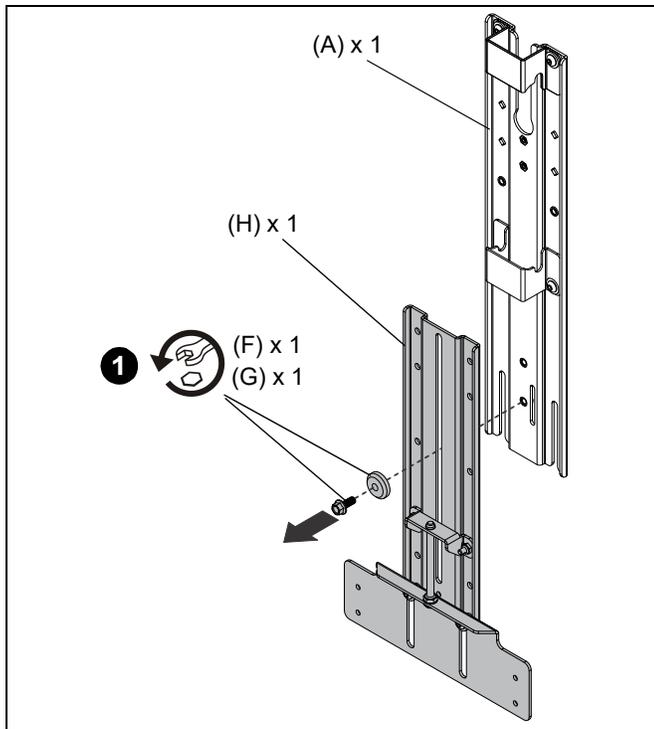

Figure 1
1. Remove the lower adjustment assembly (H) from the upright assembly (A) and set aside. (See Figure 1)